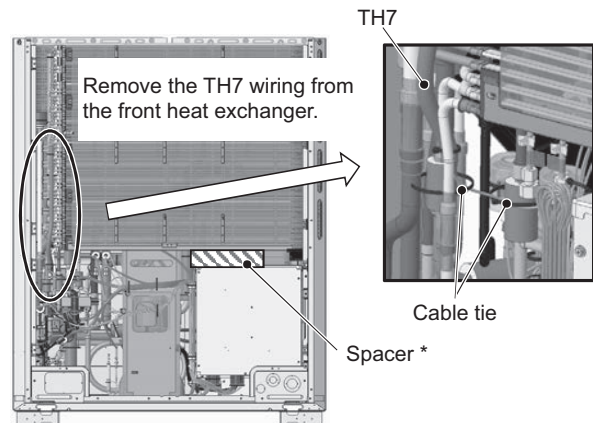

Figure 10
- (14) Remove the TH7 wiring from the heat exchanger by cutting the cable tie. (See Figure 10.)